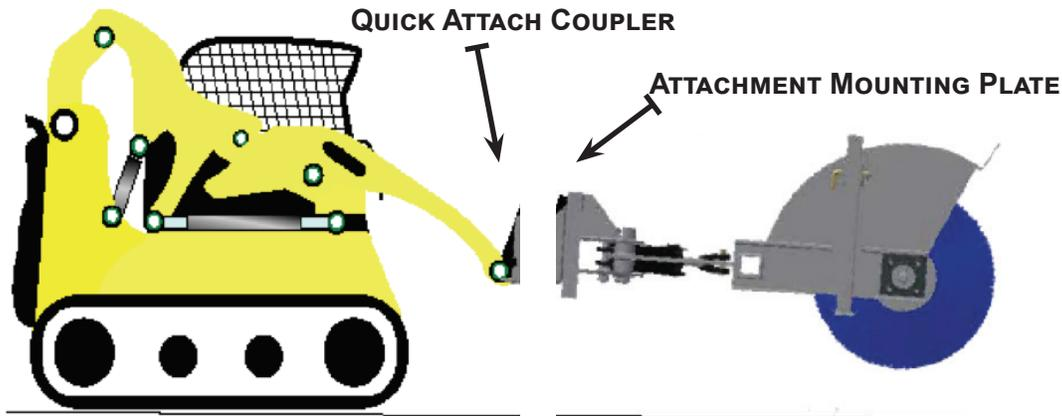

FIGURE 3.2A - SKID STEER QUICK ATTACH COUPLER TO MOUNTING PLATE
2. Drive the skid steer to the attachment plate and hook the top edge of the skid steer quick attach coupler under the lip of the broom's attachment plate. See figure 3.2a below.
3. Slowly raise and tilt back the skid steer quick attach coupler, moving upward until the broom's attachment plate is flat against the skid steer quick attach coupler. See figure 3.2a below.